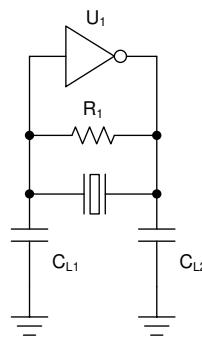

Figure 22. Pierce Type Oscillator
Both crystal oscillators are Pierce type oscillators that can be seen in Figure 22. In this type of oscillator, the crystal and the load capacitors form a pi-filter providing a 180° phase shift to the internal amplifier keeping the oscillator locked at the specified frequency. For this frequency to be correct, the load capacitance must be dimensioned properly based on the crystal's capacitive load (CL) parameter.